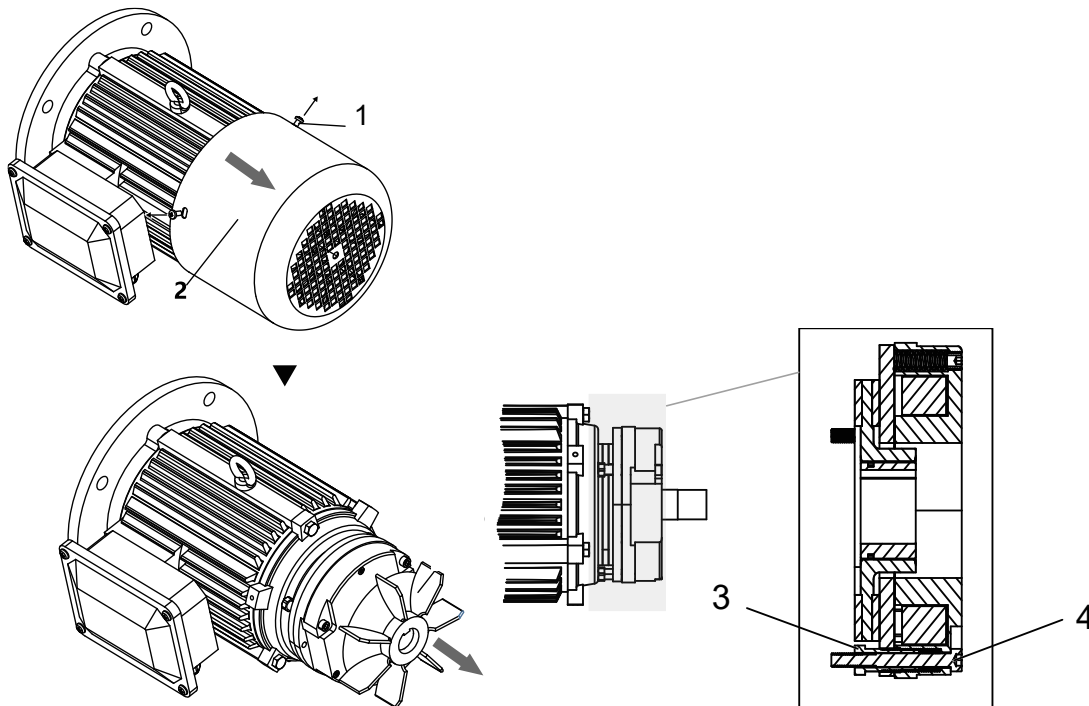

Fig. 6-18
- 1) See Fig. 6-18 loosen the retaining bolts ① and remove the fan cover ②;
- 2) See Fig. 6-18 loosen the installing screw ③ and then adjust the hollow nut ④ to the proper position until the gap value is 0.6mm, and then tighten screw ③.